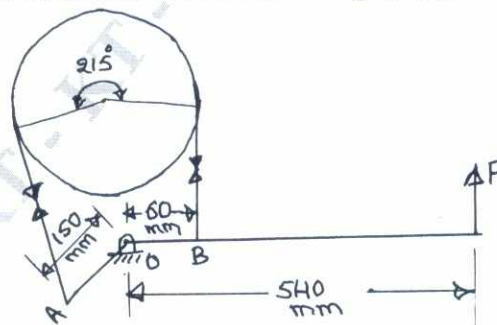

Fig.Q8(b)
b. A differential band brake operates on a sheave of 420 mm diameter and rotates at 5 rev/sec. The brake has to absorb 21 kW. Coefficient of friction is 0.25. Determine the force 'F' required to set the brake for clockwise rotation, refer Fig.Q8(b). (08 Marks)